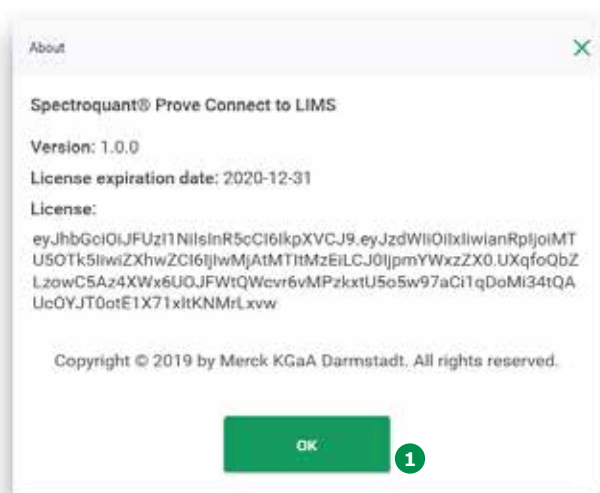

Figure 47 - Prove Connect’s About menu
The About menu leads you to a window showing the current software version, the license expiration date and the license key used for the activation of the software. Click on “OK” ① (Figure 47) to close the window.